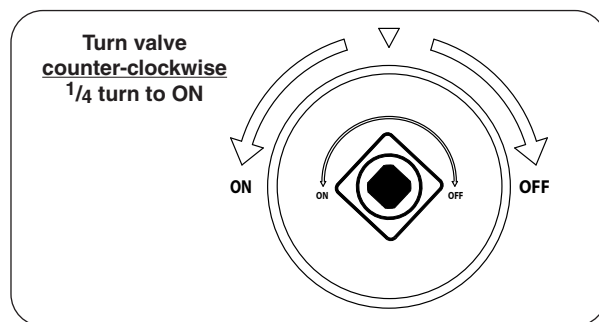

Fig. 45-2 ON/OFF key valve detail
2. Turn the ON/OFF key valve counter-clockwise a $1/4$ turn to the **ON** position (Fig. 45-2).